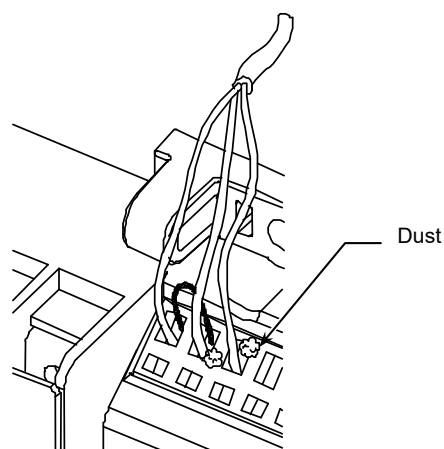

Figure 14. Dust accumulated in quick-fit screwless terminals
1.8 mm² or thinner cable connected to a quick-fit screwless terminal may cause short-circuit due to dust accumulated in clearance of the terminal. (See Fig. 14.)